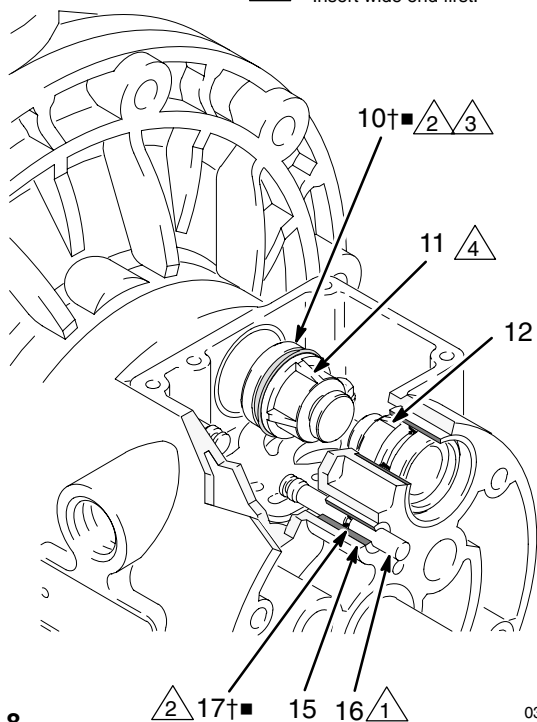

Fig. 8
4. Pull the two actuator pistons (11) out of the bearings (12). Remove the u-cup packings (10†■) from the pistons. Pull the pilot pins (16) out of the bearings (15). Remove the o-rings (17†■) from the pilot pins. See Fig. 8.
6. Inspect the bearings (12, 15) in place. See Fig. 8. The bearings are tapered and, if damaged, must be removed from the outside. This requires disassembly of the fluid section. See page 20.
4. Install an o-ring (17†■) on each pilot pin (16). Grease the pins and o-rings. Insert the pins into the bearings (15), **narrow** end first. See Fig. 8.
5. Install a u-cup packing (10†■) on each actuator piston (11), so the lips of the packings face the **narrow** end of the pistons. See Fig. 8.
6. Lubricate the u-cup packings (10†■) and actuator pistons (11). Insert the actuator pistons in the bearings (12), **wide** end first. Leave the narrow end of the pistons exposed. See Fig. 8.